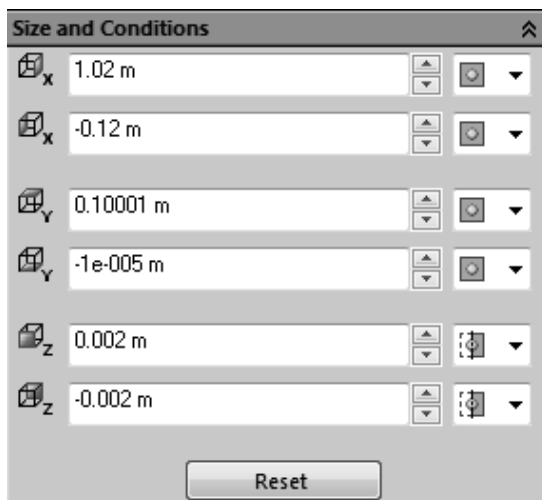
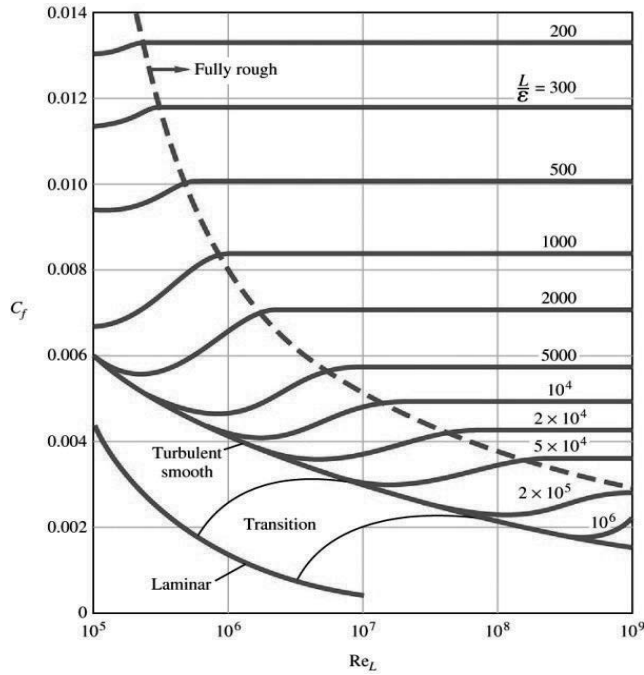

Figure 2.28a) Setting the size of the computational domain
Figure E3 Average friction coefficient for flow over smooth and rough flat plates, White (1999)
30. Select **Tools>>Flow Simulation>>Computational Domain...** Set the size of the computational domain to the values shown in figure 2.28a). Click on the **OK** button to exit. Select **Tools>>Flow Simulation>>Initial Mesh...** from the SOLIDWORKS menu and change the **Number of cells per X:** to **400** and the **Number of Cells per Y:** to **200**. Also, in the **Control intervals** portion of the window, change the **Ratio** for **X1** to **-5** and the **Ratio** for **Y1** to **-100**. This is done to increase the number of cells close to the wall where the velocity gradient is high. Click on the **OK** button to exit. Select **Tools>>Flow Simulation>>Calculation Control Options...** from the SOLIDWORKS menu. Change the **Maximum travels value** to **5** by first changing to **Manual** from the drop down menu. Travel is a unit characterizing the duration of the calculation. Click on the **OK** button to exit.
The average friction coefficient over the whole plate C_f is a function of the surface roughness for the turbulent boundary layer and also a function of the Reynolds number based on the length of the plate Re_L ; see figure E3 in Exercise 8. This friction coefficient can be determined in Flow Simulation by using the final value of the global goal, the X-component of the Shear Force F_f and dividing it by the dynamic pressure times the area A in the X-Z plane of the computational domain related to the flat plate. See figure 2.28a) for the size of the computational domain.
2.8 Use different fluids, surface roughness, free stream velocities and length of the computational domain to compare the average friction coefficient over the entire flat plate with figure E3.